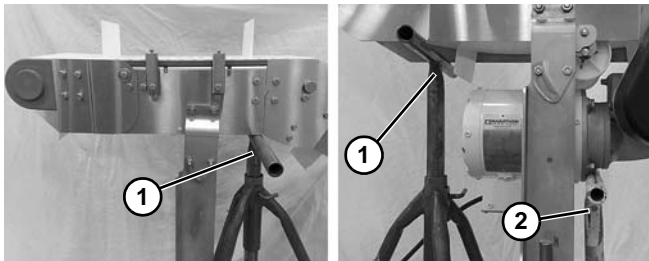

Figure 37
3. Place temporary support stands (**Figure 37, item 1**) at both ends of the conveyor. Place an additional support stand (**Figure 37, item 2**) under the drive motor, if equipped. See WARNING.